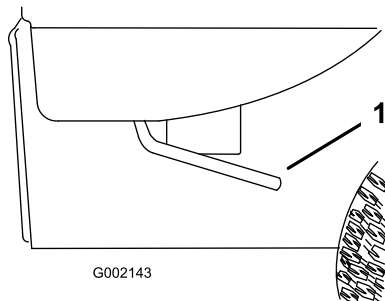

Figure 23
1. Lift the lever on either side of the box and lift the box up (Figure 23).